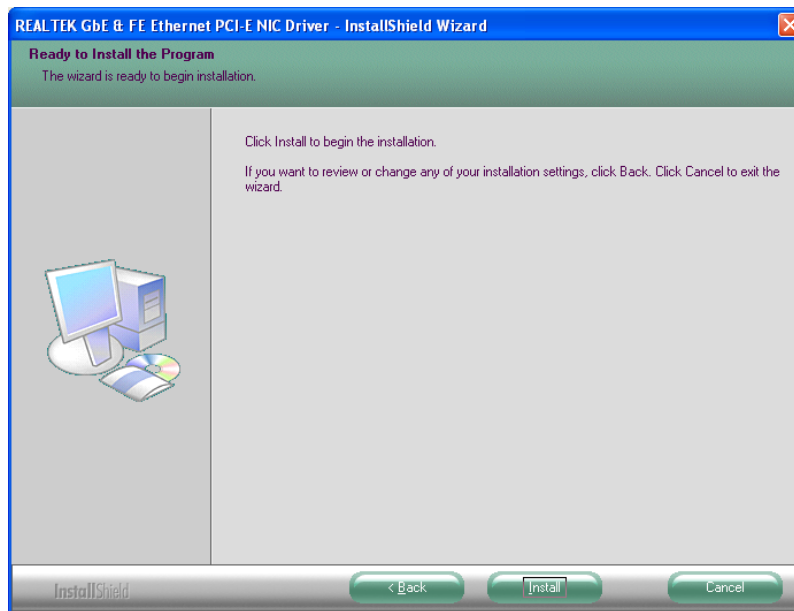

Figure 7-18: LAN Driver Welcome Screen
Step 5: The **Ready to Install** screen in Figure 7-18 appears.